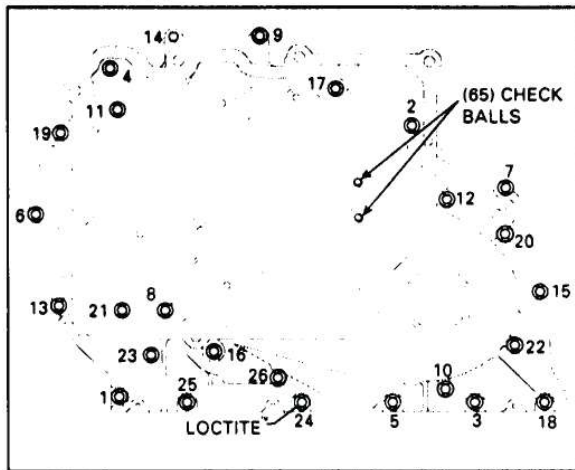

Figure 110
9. Use Figure 110 for torque sequence.